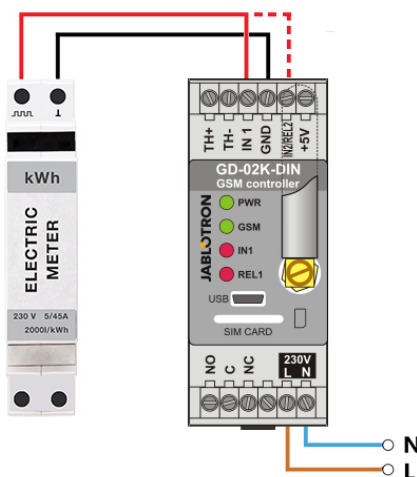

Figure 6: Electricity consumption measurement mode.
- This mode requires connection between the impulse output of the electricity meter and the IN1 or IN2 terminals and the GDN terminal on the GD-02K-DIN (see Figure 6). If the electricity meter is a two-tariff type or if there are two independent electricity meters, both inputs can be used simultaneously. The electricity meter can be single-phase or three-phase.